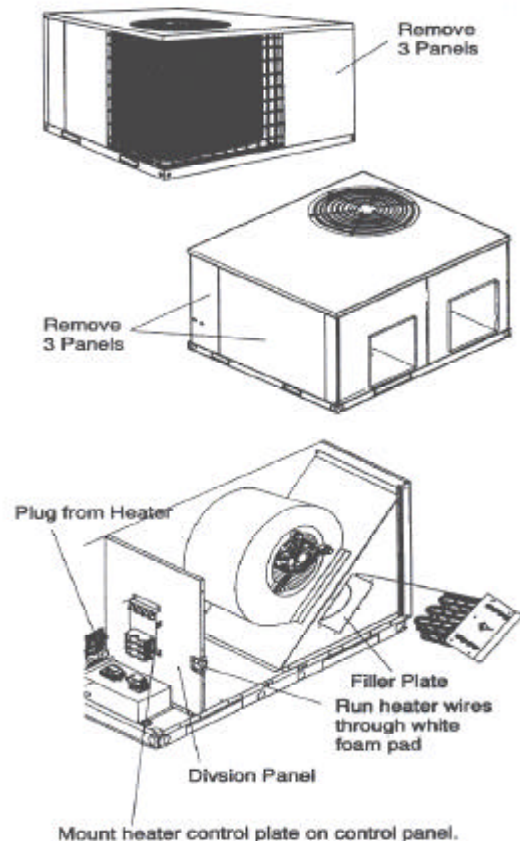

Fig. 1 Installing The Electric Heat Accessory
2. Remove (3) access panels see fig. 1.
5. Route heater wires thru white foam pad in the unit panel to the control box side. Using (4) four screws, mount the heater control plate to the unit panel see fig. 1.
8. Re-install all (3) panels.